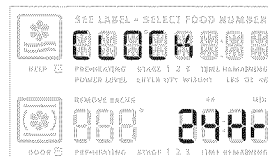

Fig. 2
2. Use the +hi & -lo to toggle to the 24hr option. -Fig. 2-	+ - hi or lo